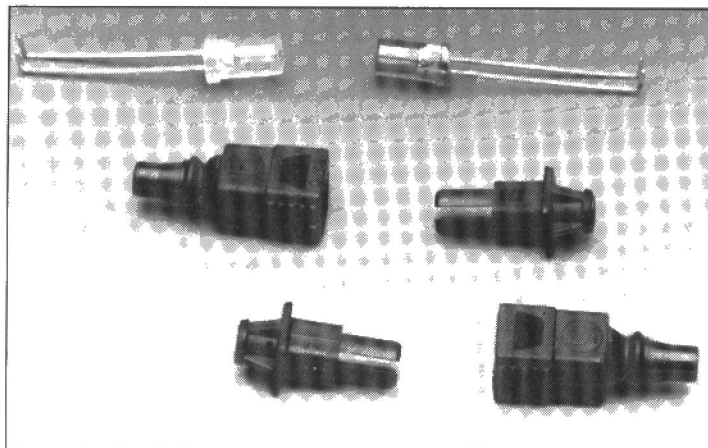

Fig. 4. Various transmit and receive diodes are available.
There are various types of transmit and receive diode that can be used—see Fig. 4. Those used in the prototype (and given in the Parts list) can be mounted directly on to the PCB. There are, however, other possibilities. For instance, Fig. 4 shows diodes integrated in a housing, to which the optical-fibre cable is fitted, that can be mounted directly on to the enclosure of the transmitter and the receiver. This type is connected to the PCB via two short lengths of wire. There are yet other types available: see the various mail order catalogues or ask your local retailer.
Figure 3 shows the construction of the antenna, which consists of a total of 46 ft (14 m) white PVC covered 7/0.2 mm stranded wire. The insulated spacers, shown in Fig. 4, are made of white plastic sprung edging strip obtainable from most DIY stores. White was used throughout for spacers and wire since it is inconspicuous against a white ceiling. Thin white nylon cord supports the end of the Flat-top 80 diagonally across the room.
Three 15 in (38 cm) and three 6 in (15 cm) long spacers are cut as shown in Fig. 4; in each of these, two  $\frac{1}{16}$  in (1.5 mm) holes are drilled  $\frac{1}{2}$  in (12.5 mm) inside the ends as shown (H).
Commencing at one end, the wire is fed through the  $\frac{1}{16}$  in holes in the three short and the three long spacers (Fig. 3 and Fig. 4). The sprung plastic spacers securely grip the wire. The spacers are next adjusted by sliding them along the wire to form the lengths shown in Fig. 3. Thin nylon cord is fed through the two end spacers of the horizontal section (Fig. 4) and fastened to hooks in the diagonal corners of the room, leaving the 4 ft (1.22 m) drop down to the resonator and the 2 ft (61 cm) down at the far end. At this stage, the spacers can be moved slightly on the wires to balance up the assembly.